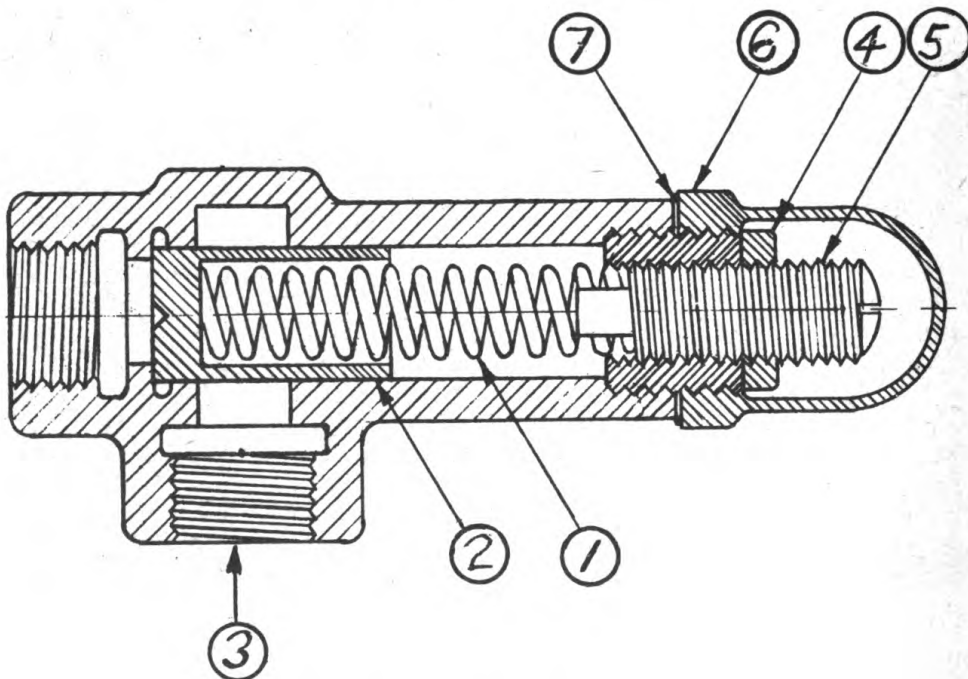

FIG. 16 - FUEL RELIEF VALVE.
A relief valve, located in the fuel line on the pressure side of the pump, serves the purpose of maintaining the fuel at proper pressure. The operating parts of the relief valve consist of a piston, piston spring, pressure adjusting screw, adjusting screw lock nut, cap and valve housing. When the pressure of the oil in the line exceeds the pressure exerted by the piston spring, (1) Fig. 16, the piston (2) is forced away from its seat, allowing the fuel to enter the valve and escape into the fuel return line (3). The fuel return line is piped back to the fuel tank.